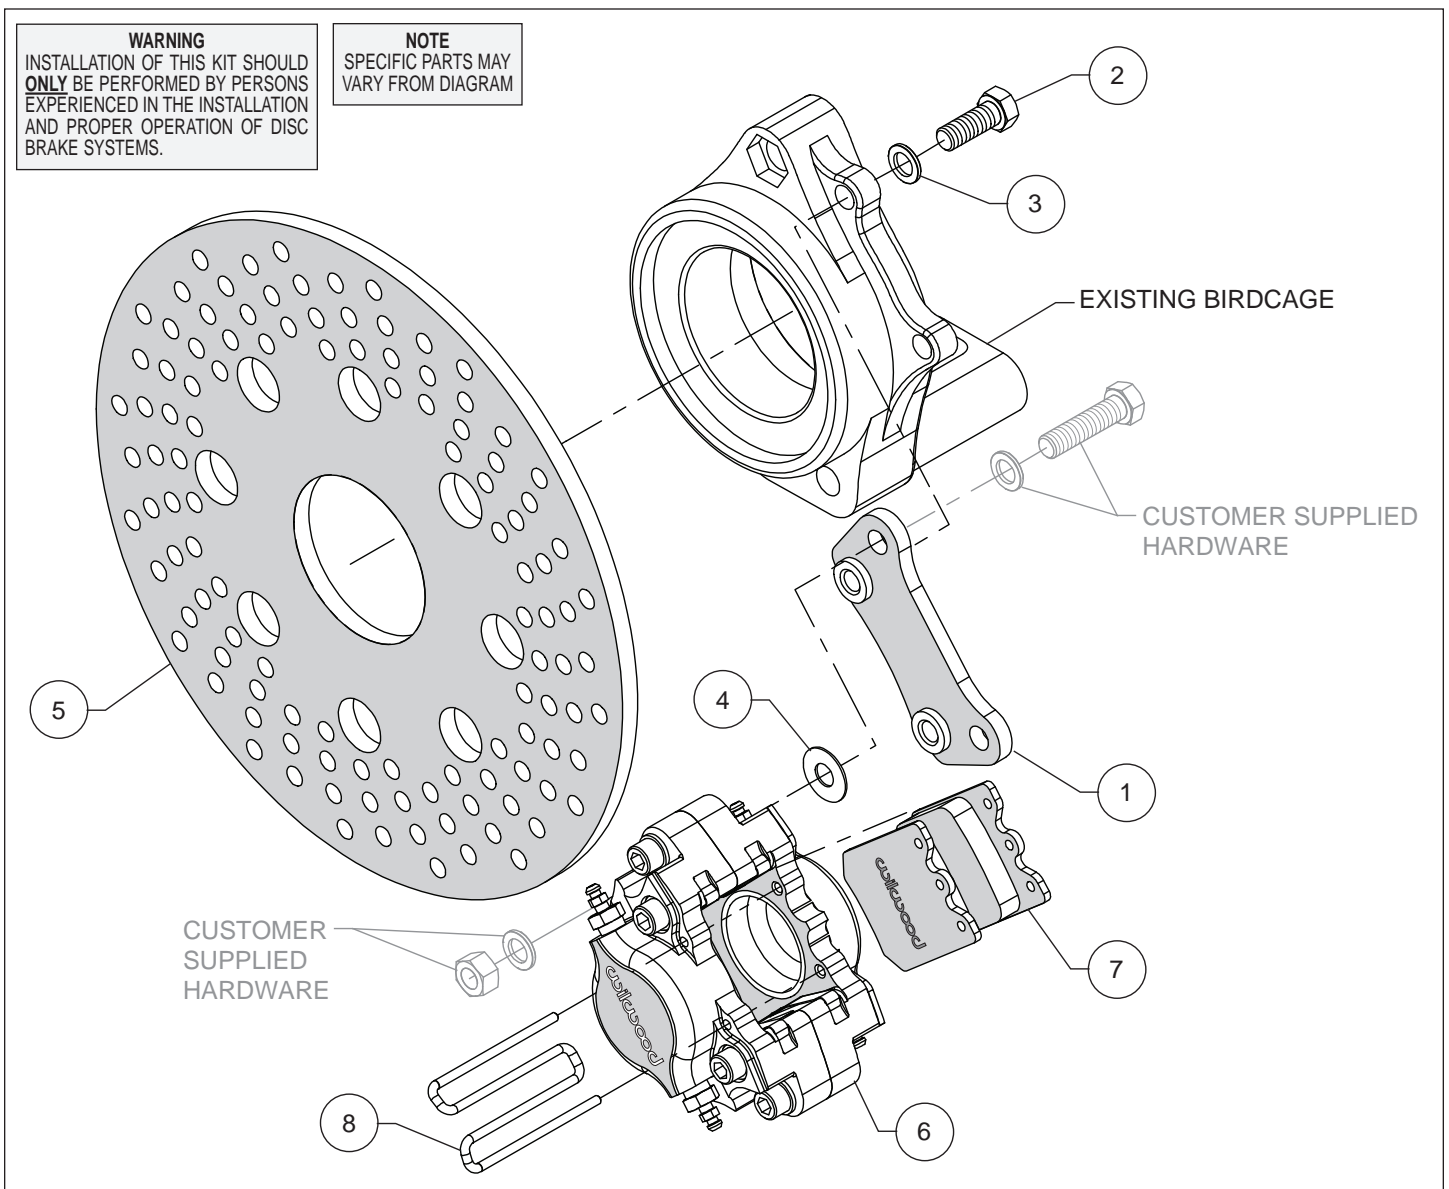

Figure 1. Typical Installation Configuration
**Assembly Instructions** (numbers in parenthesis refer to the parts list and Figure 1 on the preceding pages): **CAUTION:** All mounting bolts must fully engage clinch nuts. Be sure to check that all bolts are either flush or protruding through flanged side of clinch nut.
• Orient the caliper mount bracket (1) as shown in Figure 1, and install using bolts (2), and washers (3). Ensure that the flanged heads of the clinch nuts in the bracket are facing outboard. Temporarily tighten the mounting bolts. **NOTE:** The bracket must fit squarely against the mount bosses on the birdcage. Inspect for interference from machining ridges, burrs, etc. Remove bolts one at a time, apply red Loctite® 271 to the threads and torque to 40 ft-lb.
• Slide the rotor (5) onto the axle and secure using customer supplied hardware.
• Mount the caliper onto the bracket (1) using customer supplied hardware, Figure 1. Initially place one .035" thick shim (4) on each bolt between the caliper and bracket as shown in Figure 1. Temporarily tighten the bolts/nuts and view the rotor through the top opening of the caliper. The rotor should be centered in the caliper. If not, adjust by adding or subtracting shims (4) between the bracket and the caliper mount lugs. Once the caliper alignment is correct, torque customer supplied mounting hardware as required. Use of red Loctite® 271 is recommended.
• Remove the pad clip retainer (8) from the caliper (6). Slide the brake pads (7) into place. They should install easily without interference. Reinstall the pad clip retainer.